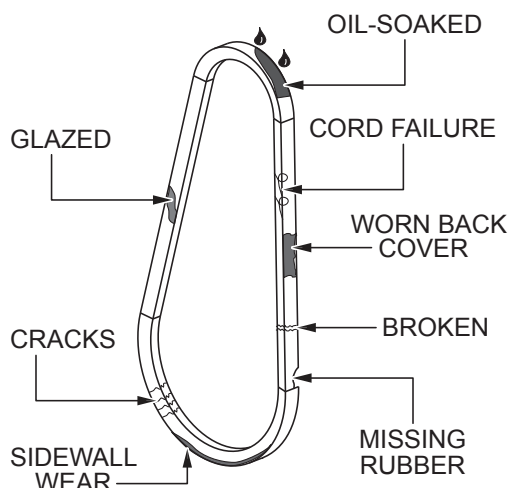

Figure 33. V-Belt Inspection
1. Inspect the V-belt (Figure 33) to determine if it is frayed, peeling, full of tiny cracks, has pieces of rubber missing, or is otherwise damaged.
2. Inspect the V-belt (Figure 33) to determine if it is oil-soaked or glazed (a hard, shiny appearance on the sides of the belt). Either of these conditions can cause overheating of the belt, which may weaken the belt and increase the danger of it breaking.